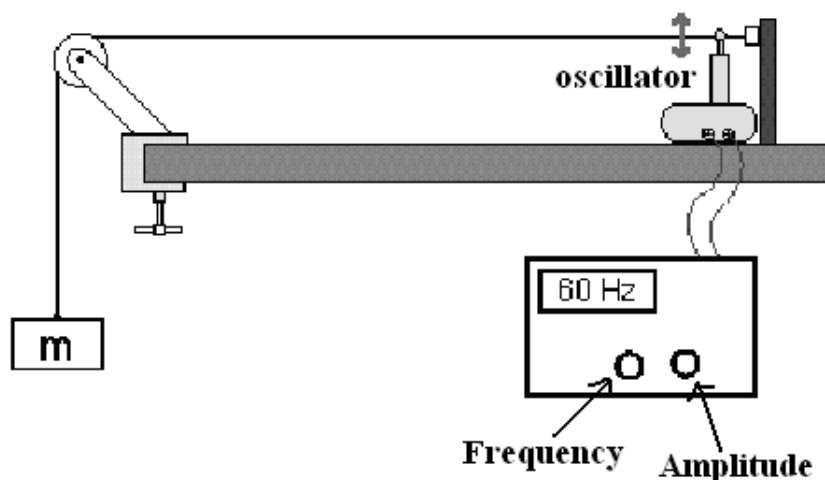

Figure 10.3: Diagram showing the experimental apparatus.
5. Measure the **total** length of the **stretched** string,  $l_s$ , with your mass system hanging on the end and record it in your data sheet. In this case, the string changes directions as it passes over the pulley as shown in Fig. 10.3. Choose an uncertainty for  $\delta l_s$  that includes both the uncertainty associated with reading the meter stick and the uncertainty of aligning the meter stick with the string.
- Position the oscillator near the fixed end of the string and adjust the oscillator to "Hz 1-100" as shown in Fig. 10.3.